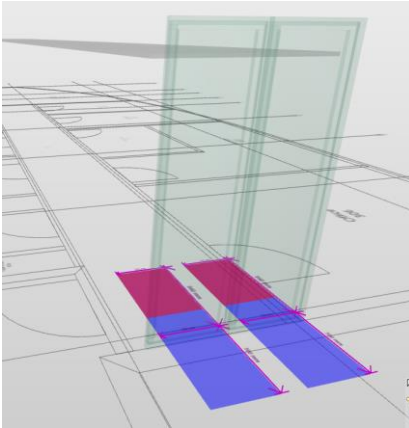

Figure 60: Suspended ceiling in front of windows
- (3) You can see a suspended ceiling component in front of two windows. There is a shadow showing dimensions of how much free space was required and how close the obstacle is (see Figure 60).